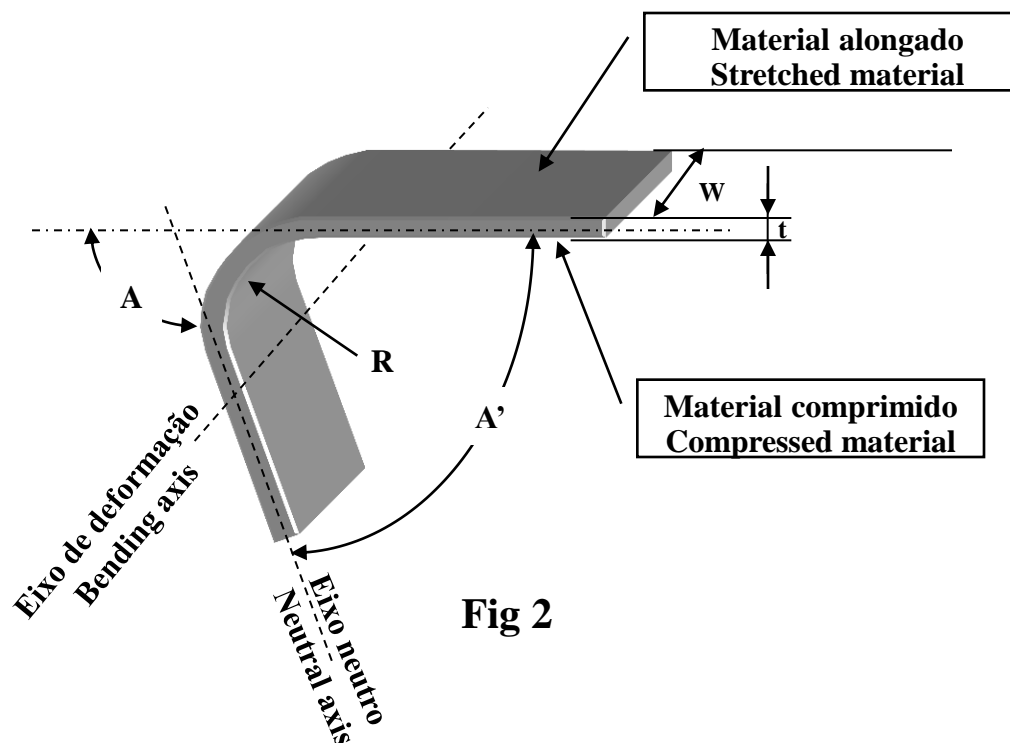

Fig 2
- w, t (cfr fig 2) em mm/in.
- w, t (cfr fig 2) in mm/in.